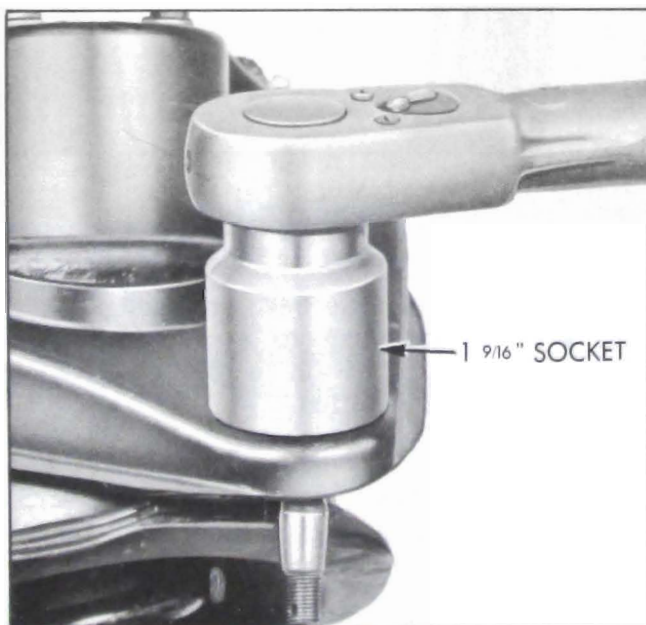

Figure 7-10—Removing Ball Joint (Upper Shown)
6. Using a 1 9/16" socket, remove ball joint from control arm. See Figure 7-10.